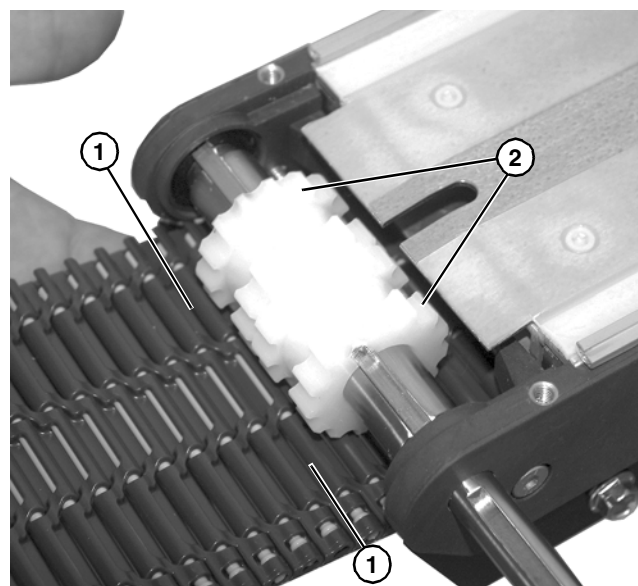

Figure 13
2. Align the belt grooves (**Figure 13, item 1**) to the evenly spaced sprockets (**Figure 13, item 2**) on the drive end of the conveyor.